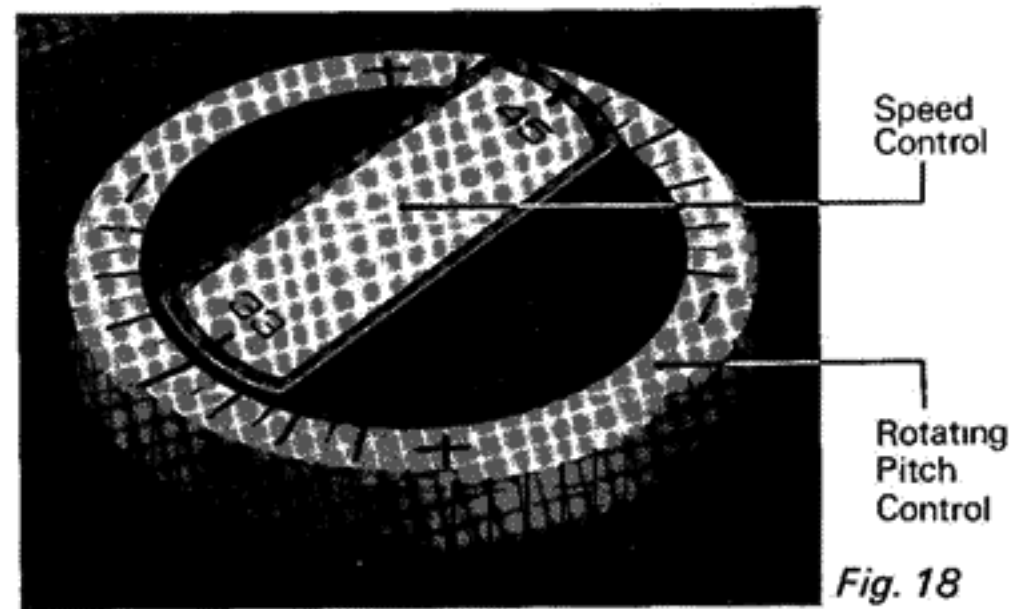

Fig. 18
- If the bars move clockwise, the turntable speed is too fast and can be reduced by turning the pitch control clockwise (Fig. 18).
- Set the pitch control to its middle position (see Fig. 18), the speed selector to '33' and then adjust the height of the rubber drive wheel to be central on the smaller diameter of the pulley by turning screw clockwise to lower or anti-clockwise to raise. Refit the turntable.